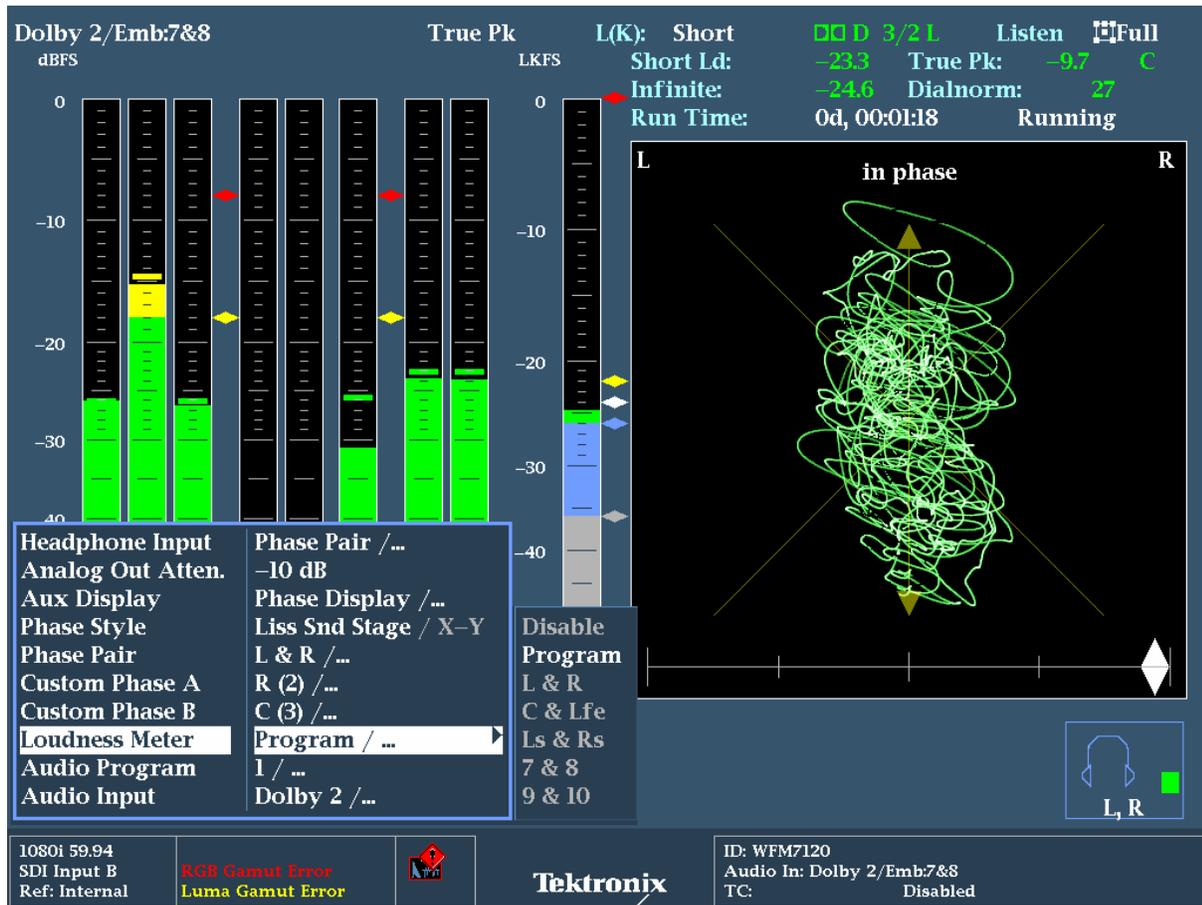

Figure 1. Audio Display with Audio Loudness Meter
5. Enter the sub menu by pressing **SEL** and navigate to the **Program** selection. (Figure 1)